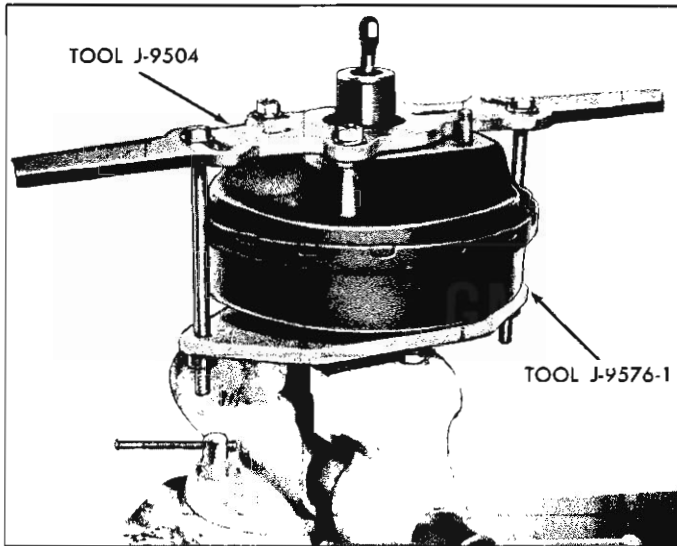

Fig. 6—Separating Shells with Tools J-9504 and J-9576-1
3. Position and secure Tool J-9576-1 (fig. 6) to
2. Position and secure Tool J-9576-1 (fig. 6) to main cylinder mounting studs, and place tool and front shell in a vise. Be sure to align tool so that check valve is not damaged.